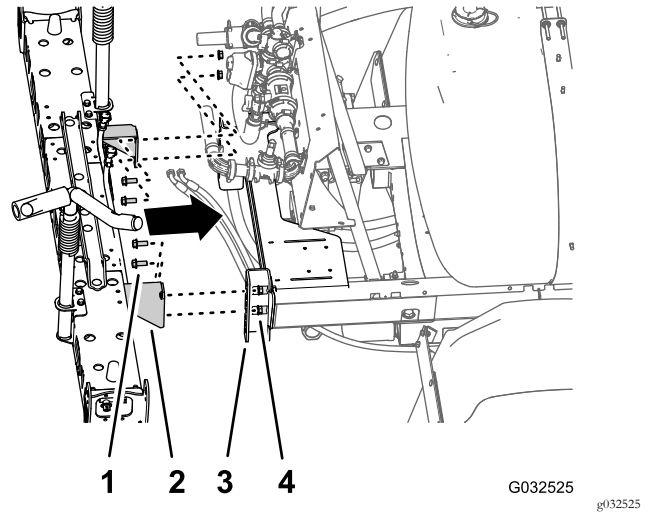

Figure 85
1. Using lifting equipment with the specified lift capacity, raise the center boom section and align the holes in the support bracket for the boom section with the third and sixth holes in the mounting channel for the sprayer frame (Figure 85).
2. Assemble the center boom section to the mounting channels (Figure 85) with the 4 flange-head bolt (1/2 x 1-1/4 inches) and 4 flange locknut (1/2 inch) that you removed in step 4 in Removing the Center Boom Section (page 30).